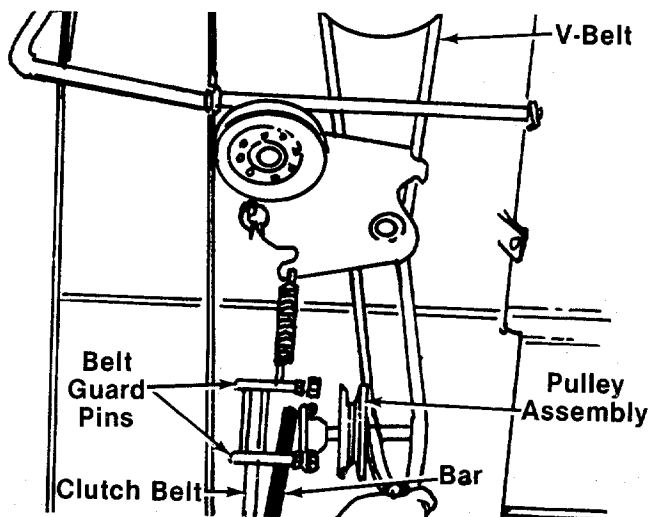

FIGURE 16.
To adjust the toe-in, loosen the hex jam nut, remove the elastic lock nut, lift the tie rod end out of the hole in the steering arm and screw the tie rod end in or out as necessary. See figure 16.
5. Using a bar or large screwdriver, pry the pulley assembly towards the front of the tractor and unhook the belt from the pulley. See figure 16.
4. Remove the two belt guard pins on the pulley assembly. See figure 16.